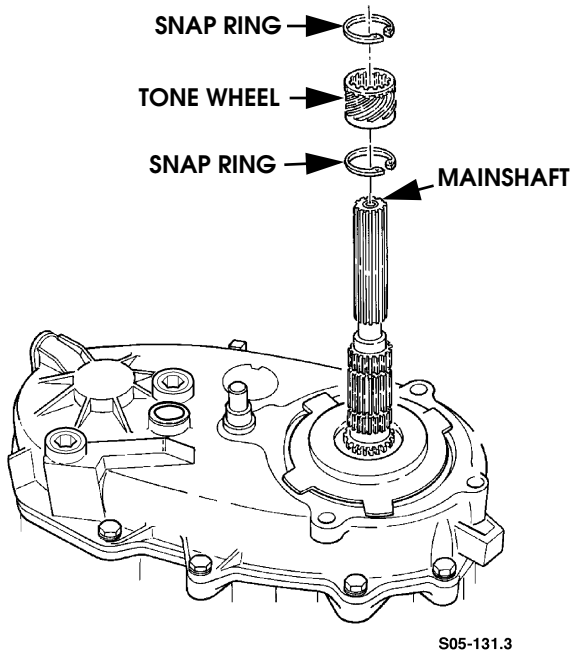

Figure 5-163: Tone Wheel Speedometer Installation
- 35. Install speedometer tone wheel and snap rings (Figure 5-163).